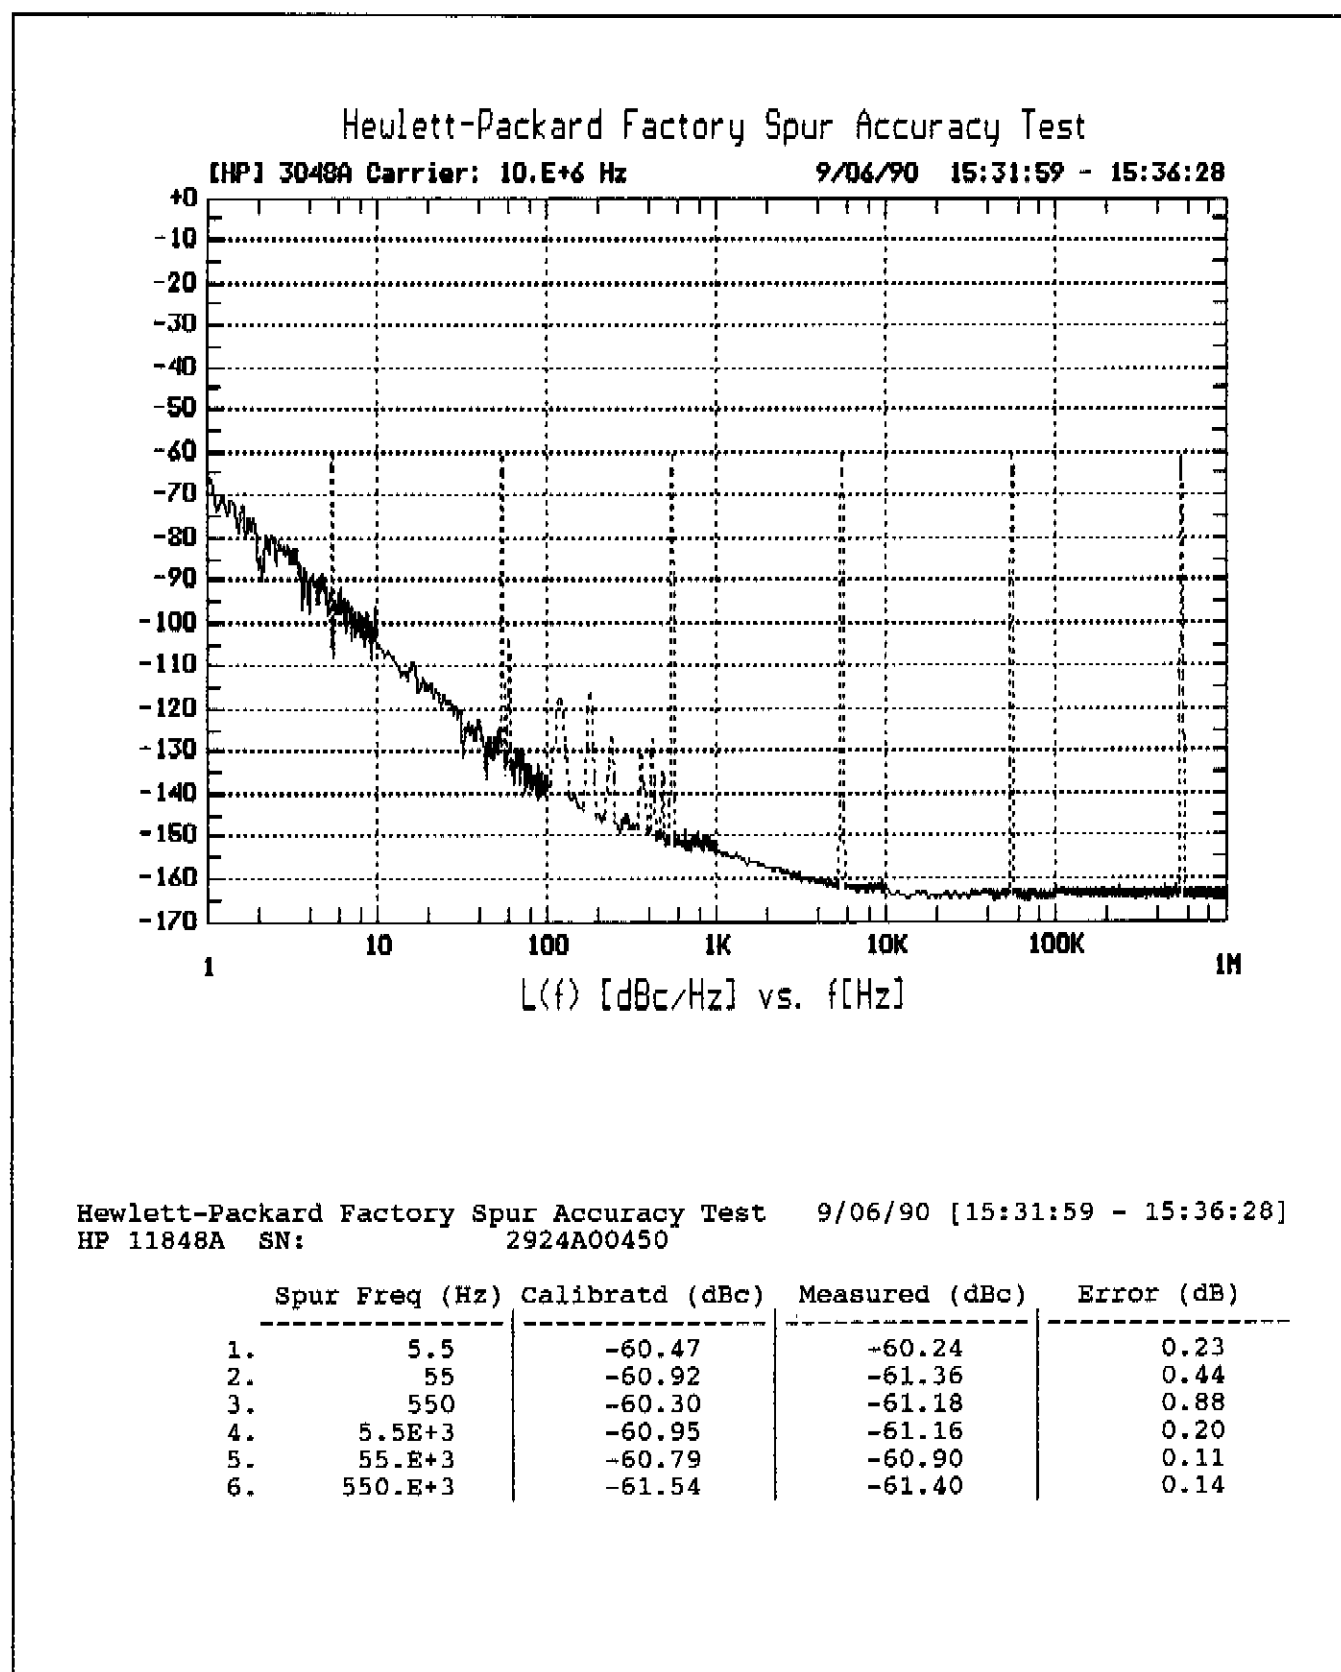

Figure 4. Typical Spur Accuracy Test Results
5. Press **F1**. The measurement should proceed without error messages, and the measured spurs should be similar to the ones shown in figure 4 with no failures listed. (The measurement takes about 10 minutes depending on controller and the presence of the RF spectrum analyzer.)